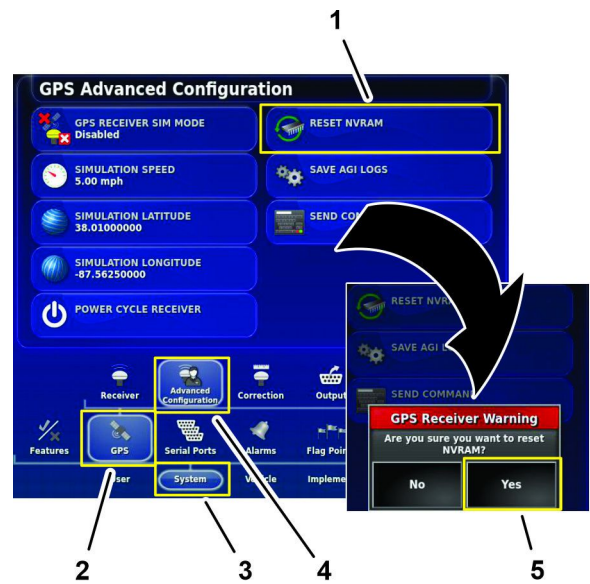

Figure 127
1. In the setup screen, press the SYSTEM icon, GPS icon, and ADVANCED CONFIGURATION icon (Figure 127).
2. In the GPS Advanced Configuration screen, press the RESET NVRAM icon (Figure 127).
3. In the GPS receive warning dialog box, press the YES icon (Figure 127).